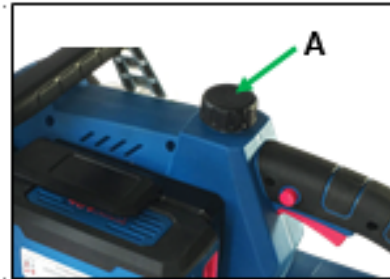

Fig. 5
- Place the chain saw on a flat surface (Fig. 5)
- Clean the area around the oil tank cap (A) and open it.
- Close the oil tank cover (A).